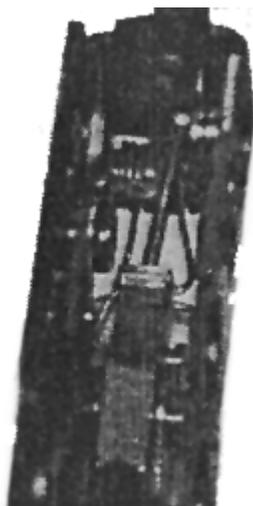
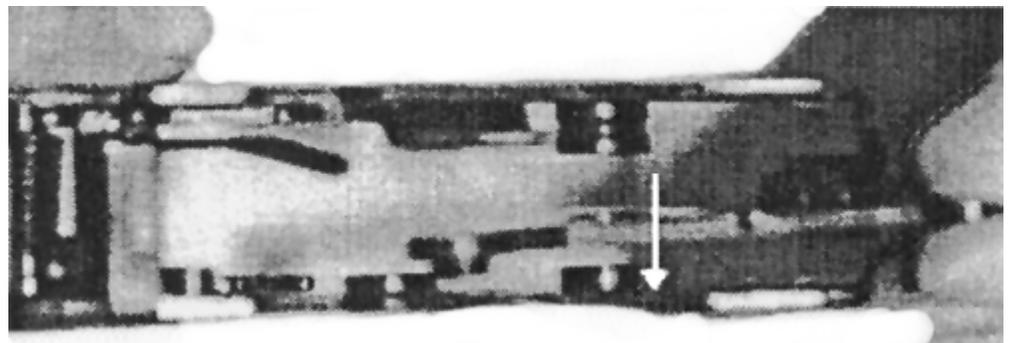

Figure 50
Figure 51
- Insert a punch from under the housing placing the tip behind the horizontal bar of the *catch*. (Fig. 50) Pull the handle of the punch to the rear, pushing the *catch* forward. Place *release lever* on its *axle/anvil* with the long part of the lever resting on the right front corner housing notch (Fig. 51)